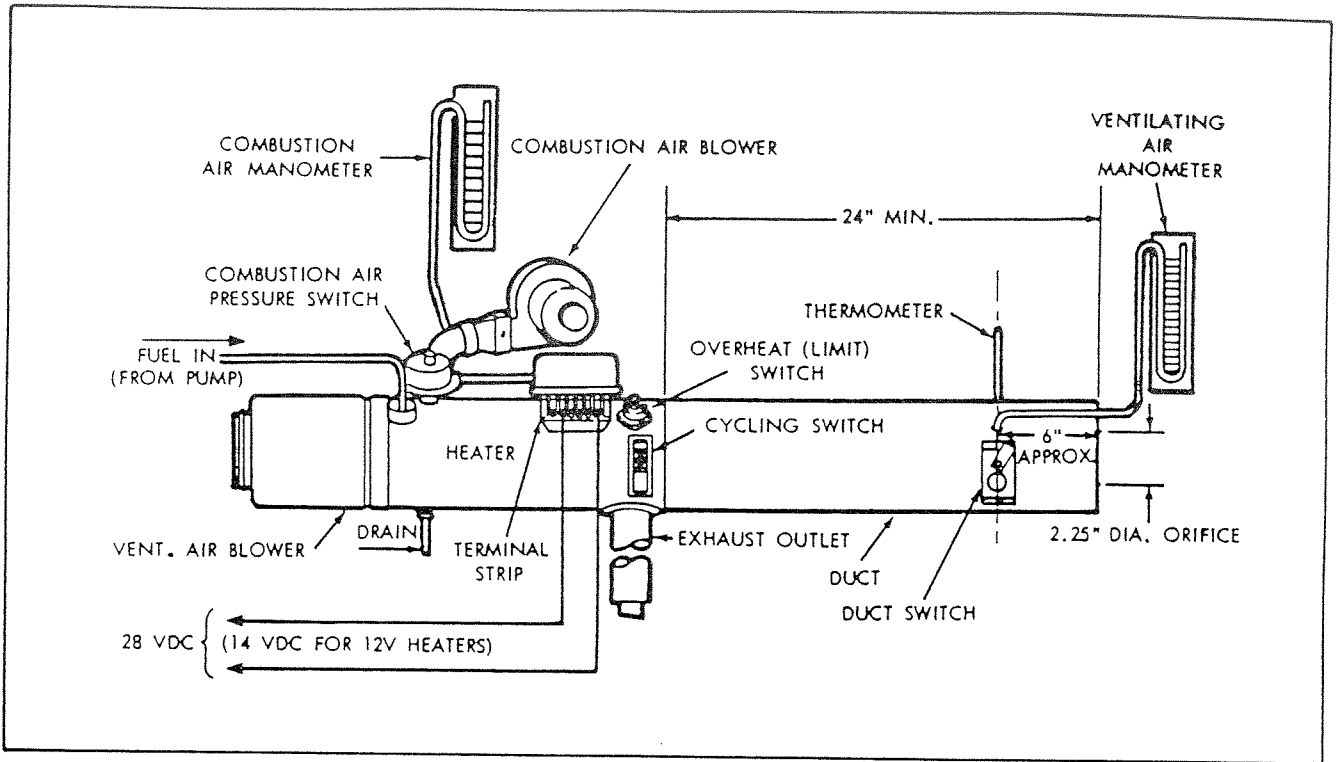

FIGURE 5-1 Suggested Set-Up for Heater Operation Test
5.3 Equipment Required (See Figure 5-1)
- f. A piece of duct to be attached to the downstream end of the heater. It should have a minimum length of 24-inches and the same diameter as the heater being tested. A 2.5" diameter orifice should be centrally located at the outlet end. An aperture should be provided for the thermometer and duct switch and a static tap should be attached as shown in Figure 5-1.
(See Figures 5-1 and 5-2)
- a. Connect the heater to the test setup as shown in Figure 5-1. Make sure the combustion air blower is mounted securely and that the heater is clamped to its supporting stand.
- b. Insert the duct switch in the sheet-metal extension tube at the location shown in Figure 5-1.